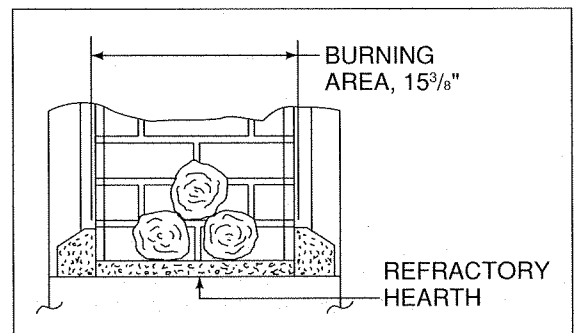

Figure 18
G. **SETTING THE FIRE.** Check the flue damper to be sure it is fully open. Place crumpled or twisted paper on to the hearth floor. Loosely arrange kindling or small pieces of wood to form a layer above the paper. Place three logs in a rough pyramid as shown in Figure 18, being sure to allow free air space between the logs. Small sticks of wood may be used to separate the logs. Use only solid wood fuel or a listed decorative gas appliance. Do not use a fireplace insert or other products not specified for use with this fireplace. **NOTE:** When heated the first time, the temperature of the fireplace must be raised gradually, to prevent moisture within the refractory from causing cracks, and to allow the binders in the insulation to dissipate.